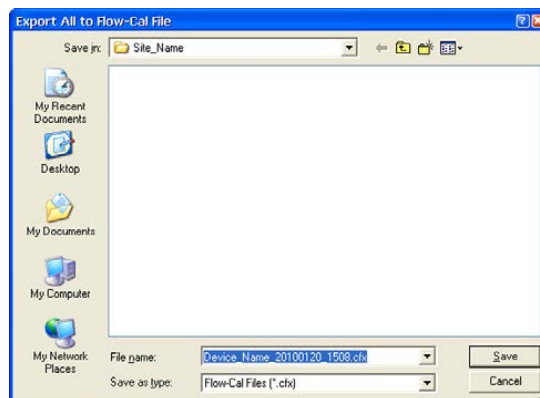

Figure 14.41
2. An Export All to Flow-Cal File or Export All to PGAS Files window will appear (Figure 14.41). To change the file path and/or file name from the defaults listed below, browse to the desired file path and/or type the desired entry in the field provided. See Log Directory and Filenames, page A-16 for more information.